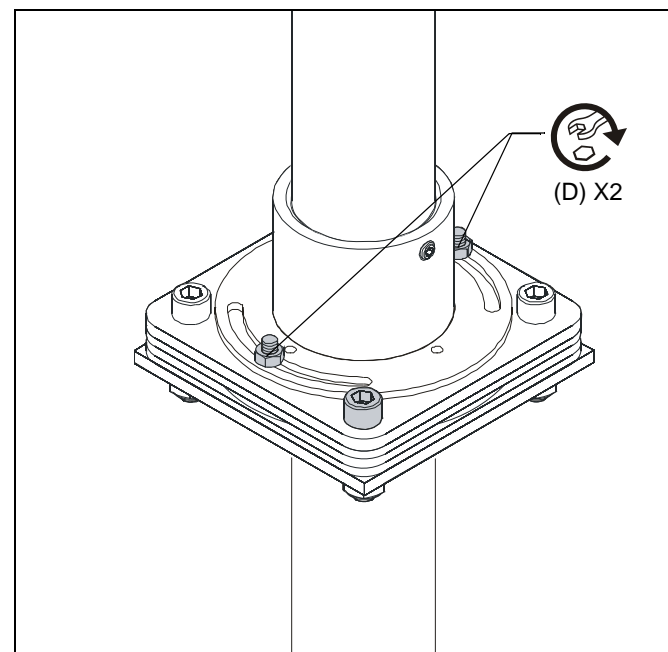

Figure 6
11. Tighten two lock nuts (D). (See Figure 6)